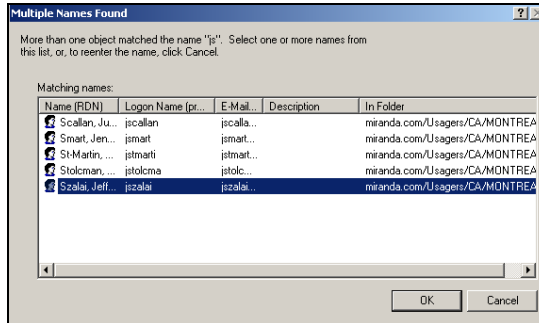

Figure 19-46. The Multiple Name Found dialog box
- If only one match is found, then the name is immediately added to the text box. However, if multiple names match the search criteria, then the **MULTIPLE NAMES FOUND** dialog box appears (figure 19-46). Select the name of the user(s) that you want to add from the **MULTIPLE NAME FOUND** dialog box and press **OK**.